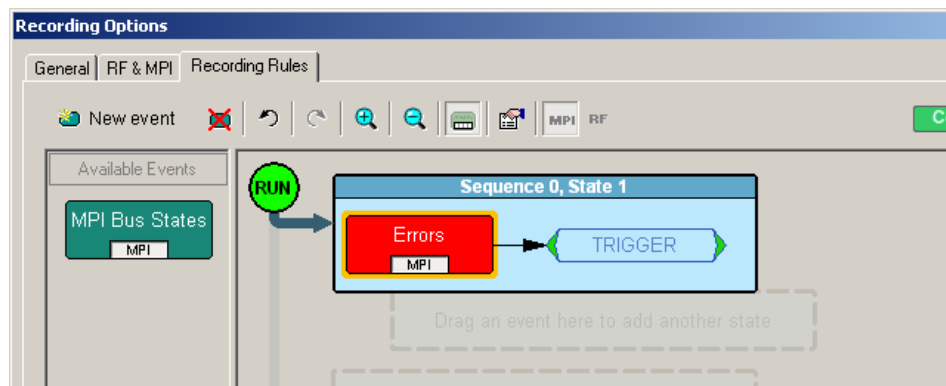

Figure 12.16 Action Assigned to Event
Step 2 Select Specify Action, and then choose an action from the submenu. The menu closes, and the action is assigned (Figure 12.16).